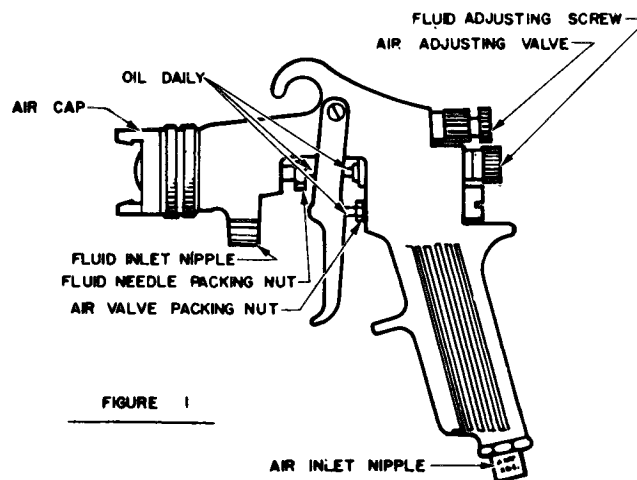

FIGURE 1
When used with a Siphon Feed Cup, attach the gun to the Fluid Inlet Nipple and connect the Air Hose to the Air Inlet Nipple (see Fig. 1). When used with a Pressure Feed Tank, Air Hose and Fluid Hose both are required to connect the Spray Gun to the Tank. The Fluid Hose is Black, the Air Hose is Red. Attach one end of the Fluid Hose to the Fluid Outlet on the Pressure Tank and the other end of the Fluid Hose to the Fluid Inlet Nipple on the Spray Gun. Attach one end of the Air Hose to the Air Outlet Valve on the Pressure Tank and connect the other end of the Air Hose to the Air Inlet Nipple of the Spray Gun (Fig. 1).
The width of the Spray is controlled by the Air Adjustment Valve (Fig. 1). Turn the Air Adjustment Valve clockwise to decrease the spray, counter clockwise to increase the spray. To produce a round spray pattern or spot, close the Air Adjustment Valve.
The amount of material flow is controlled by the fluid Adjustment Screw (Fig. 1). Turn Adjusting Screw to the right to decrease the amount of Fluid flow and to the left to increase it.
**LUBRICATE DAILY** all bearing surfaces and moving parts with a light oil. The points of lubrication, refer to SPRAY GUN ASSEMBLY SECTIONAL DRAWING and see also Figure 1, required are: (A) the front and rear bearing surfaces of FLUID NEEDLE Item 22 (B) bearing surface of AIR VALVE STEM Item 8.